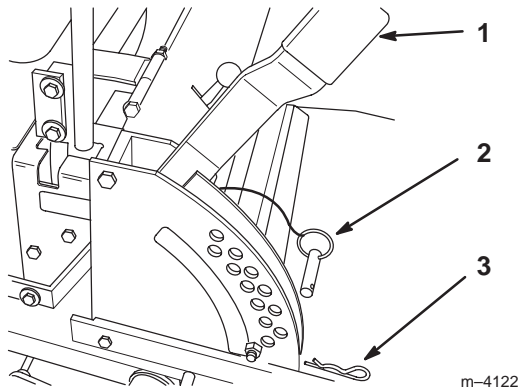

Figure 17
1. Raise the height-of-cut lever to the transport position (also the 4-1/2 inch [114 mm] cutting height position) (Fig. 17).
2. To adjust, remove the hairpin cotter and clevis pin from the height-of-cut bracket (Fig. 17).
3. Select the hole in the height-of-cut bracket corresponding to the height-of-cut desired, and insert the clevis pin (Fig. 17).
4. Secure the clevis pin with the hairpin cotter (Fig. 17).
5. Lower the height-of-cut lever onto the clevis pin (Fig. 17).